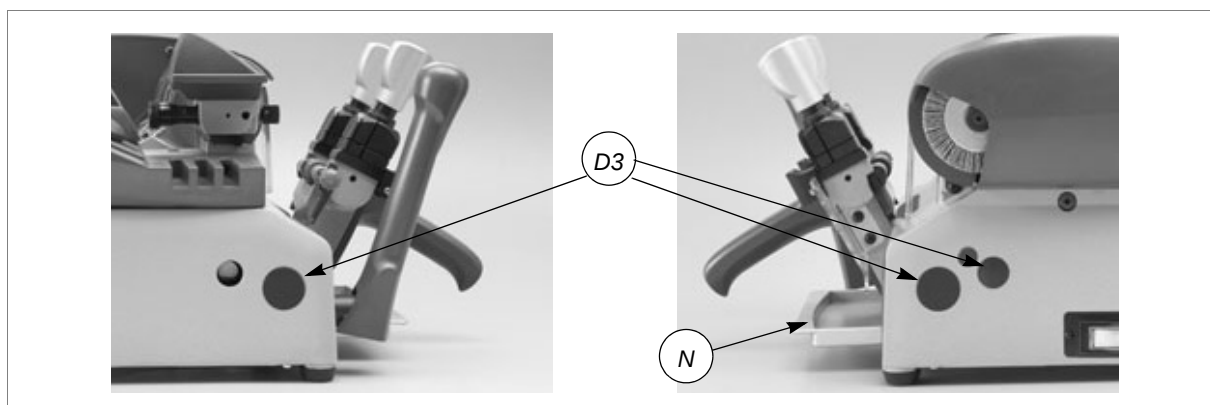
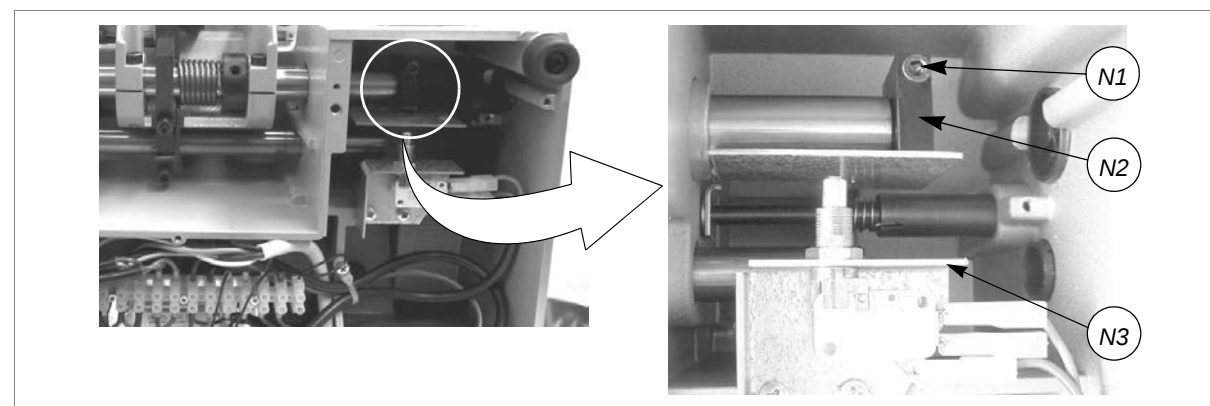

Fig. 51
Fig. 52
- 8) Remove the caps (D3) from the base (fig. 51, page 33).
- 9) Remove the swarf tray (N).
- 11) Loosen the 7 screws (W) and 2 feet (W1) and remove the bottom panel (W2) (ch.7.8, page 25).
- 12) Loosen the screw (N1) on the cam (N2) (fig. 52, page 33) and pull the cam to the right to remove.
- 18) Replace the cam (N2) so that it pushes the plate (N3) hard up against the microswitch; tighten the screw (N1) (fig. 52, page 33).
- 19) Replace the bottom panel and fix with the 7 screws (W) and 2 feet. Fit the swarf tray.
- 22) Replace the carriage safety shield (D1) and fit the knob (V), pressing it downwards.
- 24) Replace the protection from swarf (Z) and tighten the 2 screws (V1).